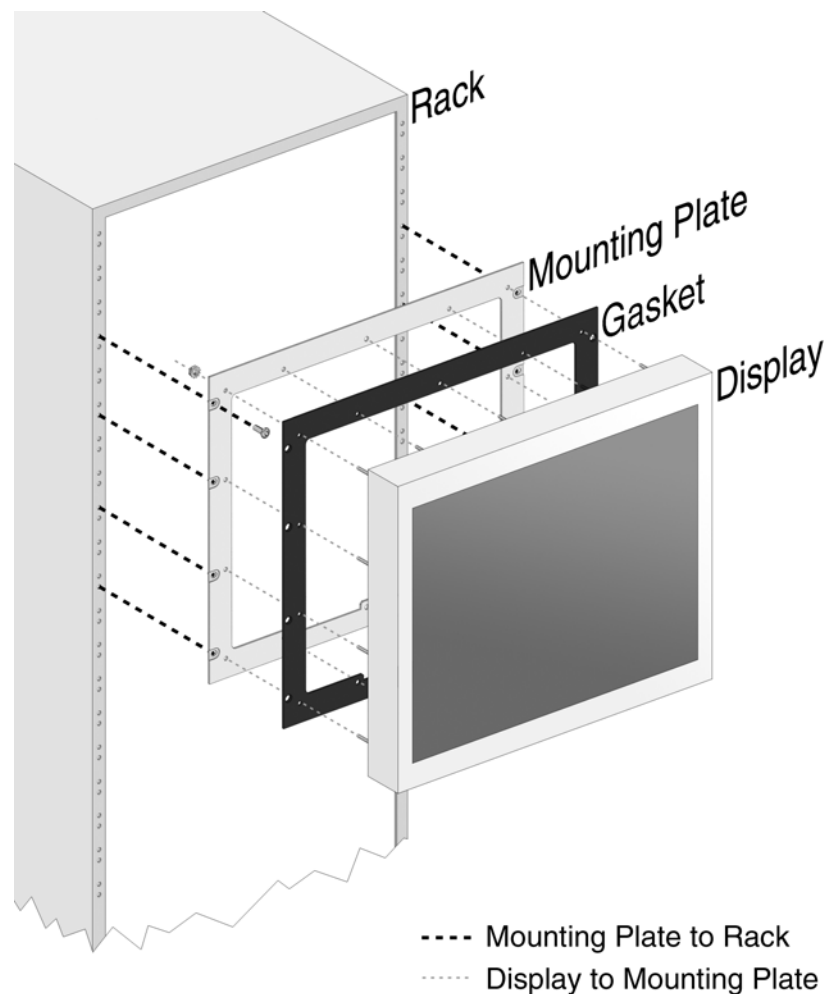

Figure 4: Portrait Installation Illustration
1. Align mounting plate rack-mount holes with server rack mounting holes; see Figure 4 for correct mounting orientation. **Ensure gasket faces outward.**